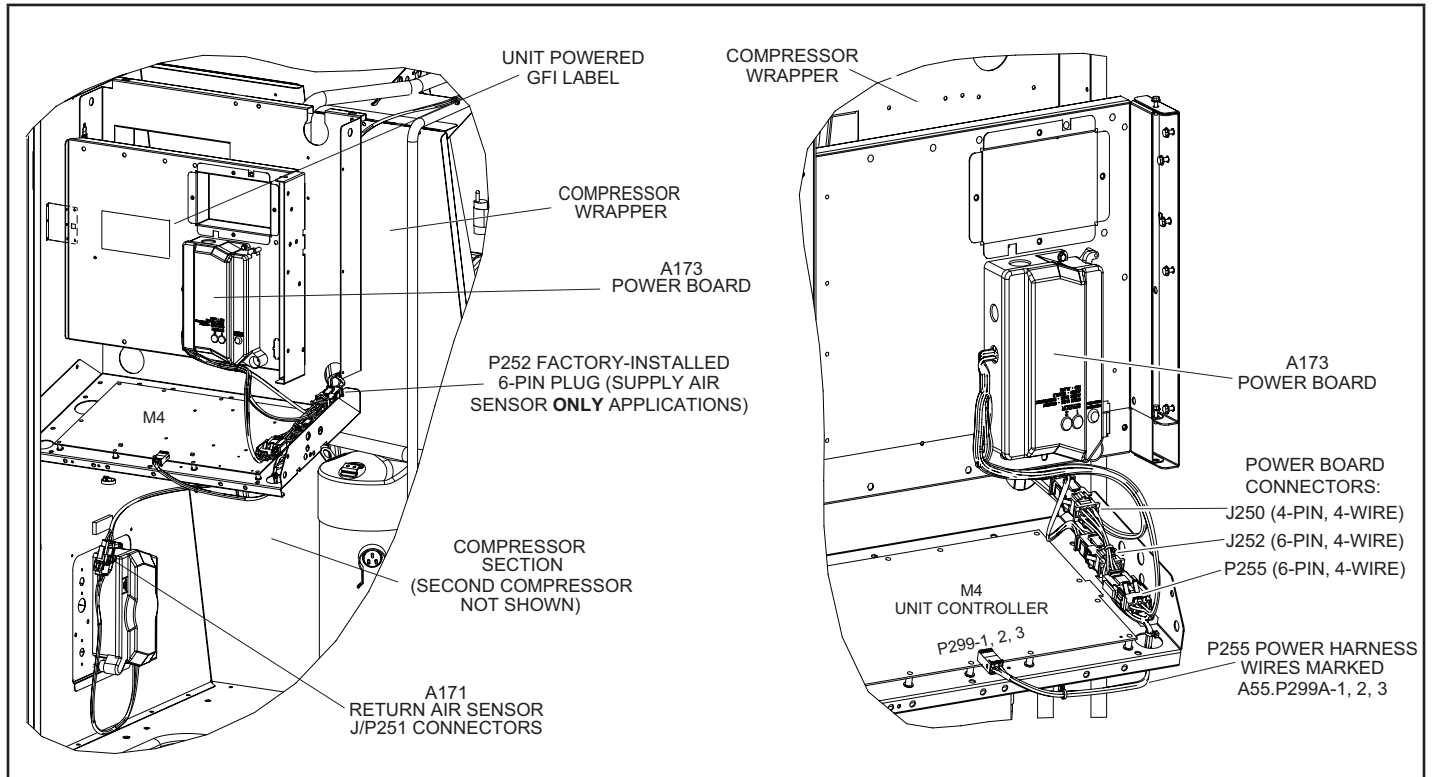

FIGURE 7
- 2 - If unit is equipped with a unit-powered GFI, apply the provided label on the hinged panel. See FIGURE 7.